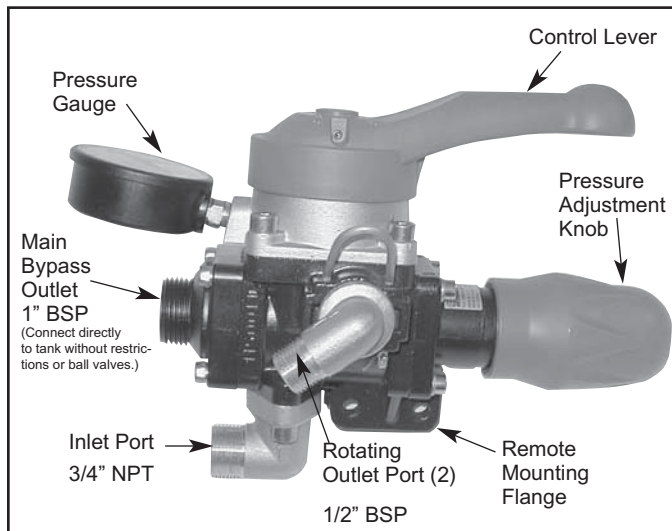

Figure 1: Bypass, dump to tank position
2. The control unit can be put into full bypass mode by rotating the control lever to the 10:30 position such that the word "BYPASS" is aligned to the pressure adjustment knob. See Figure 1.